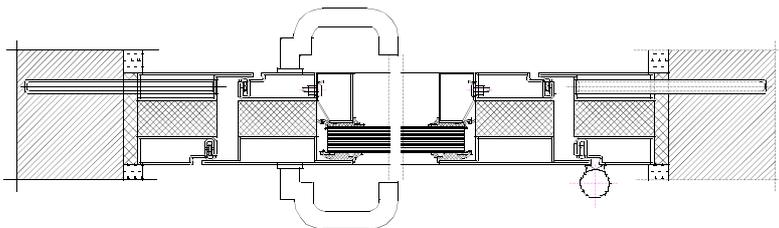

Fig. 5 – Installing the structure in a wall
- Fig. 5 – Installing the structure in a wall (Detail 1)
If the total length of the partition exceeds 5 m, you should provide expansion joints. The expansion joints should be provided at distances of not more than 4 m, by tightening the profiles so that there is a gap of 15 - 18 mm between them. Fill the space between the frame and the wall with mineral wool. The external surface of the joint of the wall and frame should be finished with an incombustible material e.g. plaster or GKF plasterboards (see Fig. 5)